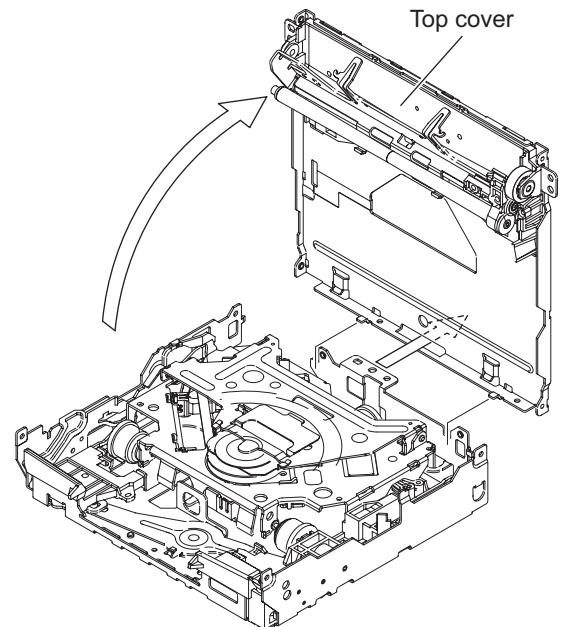

Fig.5
- Take out the top cover in an upward direction. (See Fig.5.)